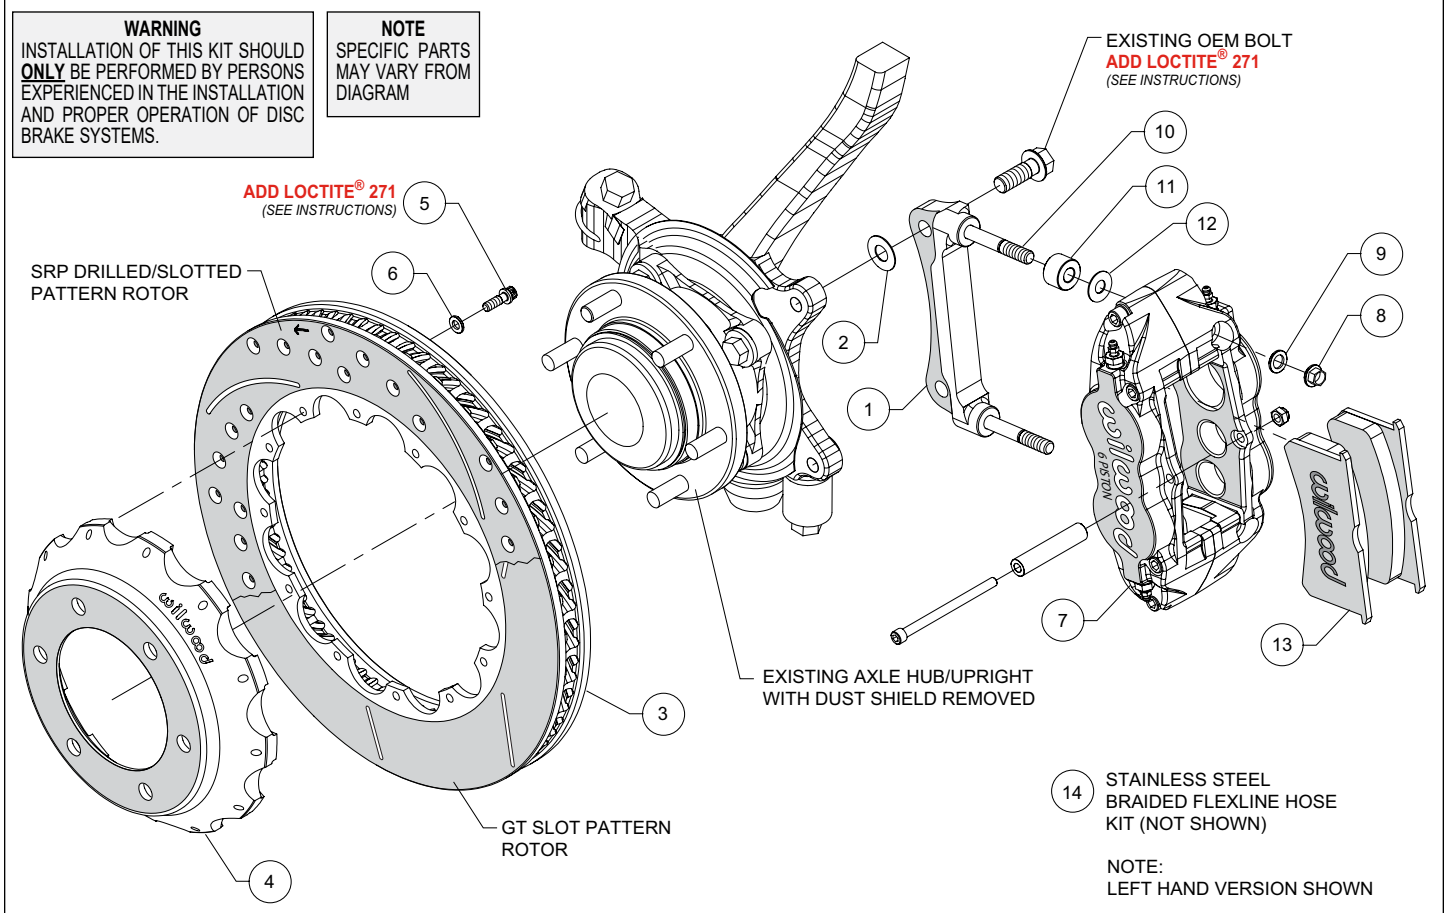

Figure 1. Typical Installation Configuration
NOTE: Numbers in parenthesis refer to the parts list and Figure 1 on the preceding pages.
- The caliper mount bracket (1) should initially be installed with clean, dry threads on the mounting bolts. Orient the bracket as shown in Figure 1 and Photo 2 and install using saved OEM mount bolts. Initially place one .033" thick shim (2) on each bolt between the bracket and upright, Figure 1. Temporarily tighten the mounting bolts. **NOTE:** The bracket must fit squarely against the mounting points on the upright. Inspect for interference from casting irregularities, machining ridges, burrs, etc. Later, after the caliper alignment has been checked, the mount bolts will be secured using red *Loctite*® 271.
- Orient the rotor (3) and the hat (4) as shown in Figure 1 and Photo 3. Attach rotor to hat using bolts (5) and washers (6). Apply red *Loctite*® 271 to the bolt threads and torque to 155 in-lbs using a criss-cross pattern.. For an added measure of security, the bolts may be safety wired using standard 0.032 inch diameter stainless steel safety wire as shown in Figure 3. Please refer to Wilwood's data sheet DS-386 (available at www.wilwood.com/Pdf/DataSheets/ds386.pdf) for complete safety wire installation instructions.
- NOTE:** This kit contains distinct right and left hand calipers that must be mounted in a specific direction, as described below. Initially place one spacer (11), and one .035" thick shim (12) on each stud (10) between the caliper and the bracket, as shown in Figure 1 and Photo 6. Mount the caliper (7) onto the bracket (1) using lock nuts (8) and washers (9), Figure 1. Ensure that the caliper is mounted so the largest pistons are at the rotor exit end of the caliper, in relation to the direction of rotor rotation. Temporarily tighten the lock nuts and view the rotor through the top opening of the caliper. The rotor should be centered in the caliper, Photo 7. If not, adjust by adding or subtracting shims (2) between the bracket and the upright. Always use the same amount of shims on each of the two mounting bolts. Once the caliper alignment is correct, remove the bracket mounting bolts one at a time, apply red *Loctite*® 271 to the threads, and torque to manufacturer's specifications.